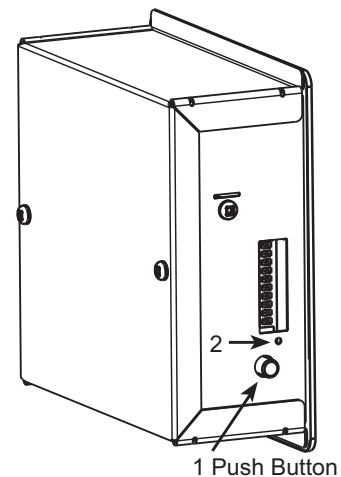

Fig. 19 - Integrated Control
All units are equipped with an integrated control, located in front of the electrical compartment. See Fig. 19. Use the push button (1) to control the unit. The LED (2) will then show on which mode the unit is in.